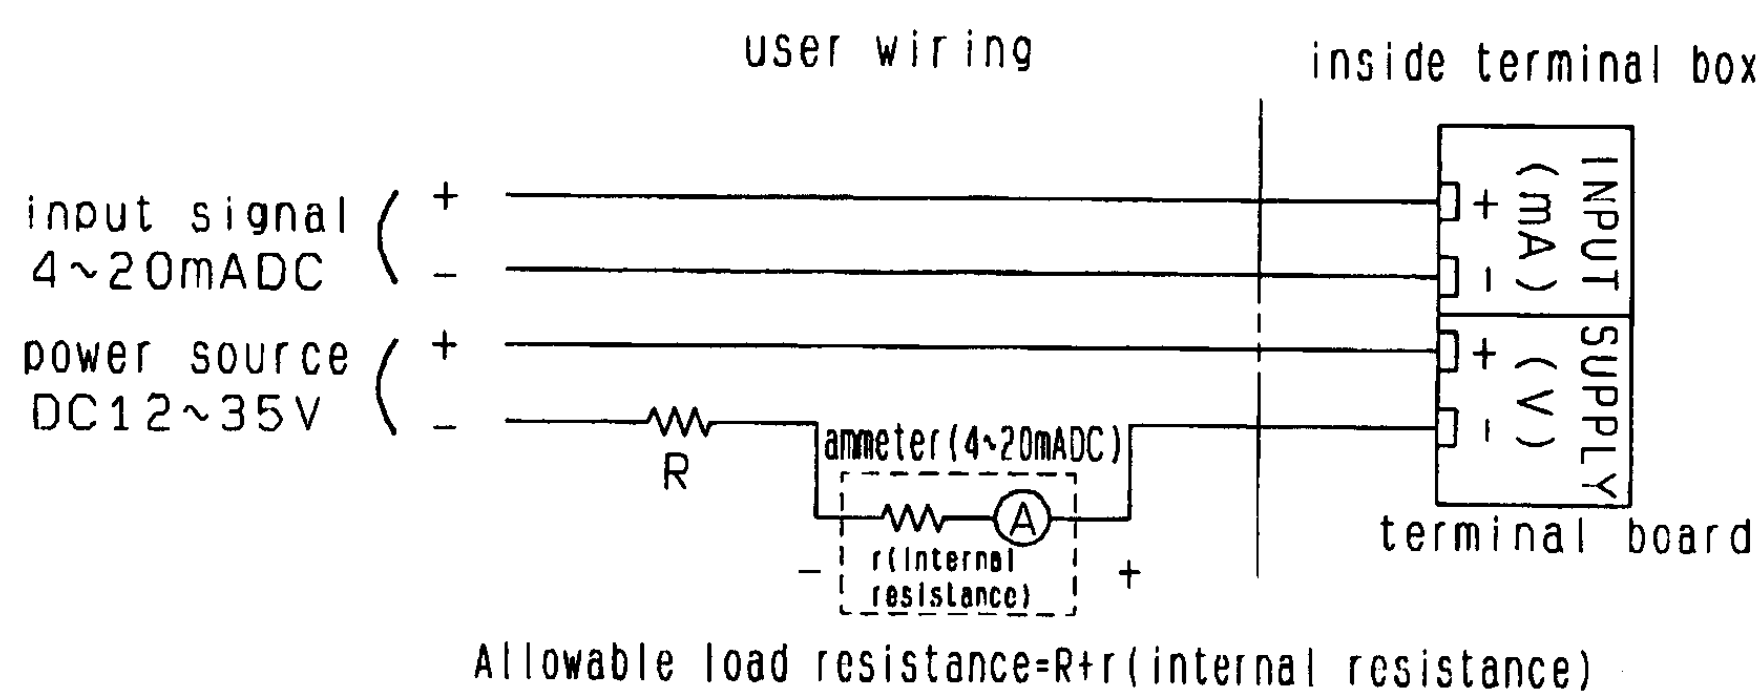

Fig 1 Wiring diagram
- (1) Connect the input signal (for Positioner control) to input side of the terminal board in the terminal box.
- (2) Connect power source (for detecting output current) to supply side of the terminal board.
- (3) Connect ammeter in series between (+) side and (+) side of supply of terminal board or (-) side and (-) side of supply. Please refer Fig.1 for wiring